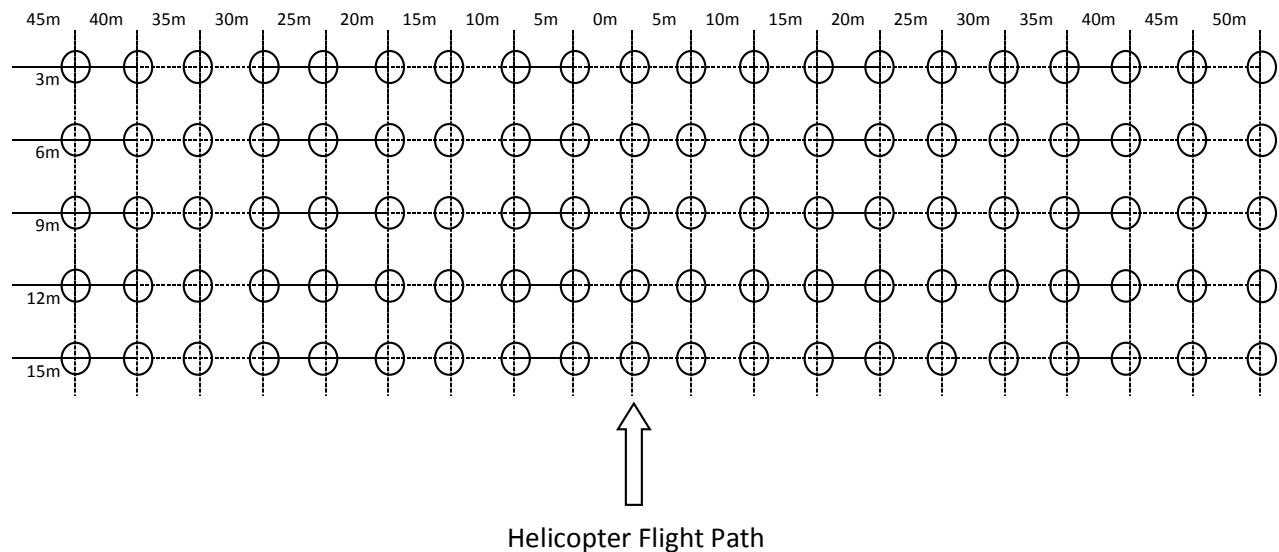

Fig. 2. Sample design for calibrating spreader buckets at high sow rates (> 20kg/ha).
- Mark the vertices of a 5m x 3m grid over an area of 100m x 15m as depicted in Fig 2. below. The dimensions of the grid and the number of sampling points can be varied depending on the swath width and the accuracy required.